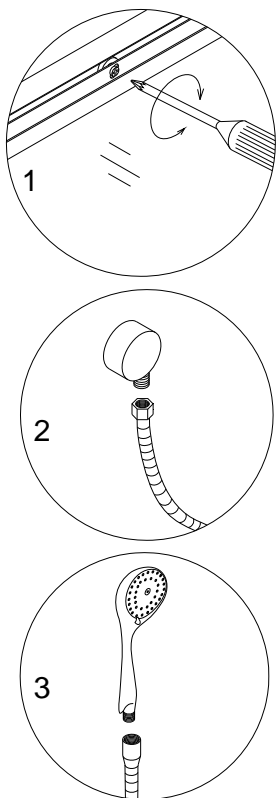

Fig 16
17. Use the Phillips screwdriver #2 (**do not use power screwdriver**) to adjust the upper wheels, make sure they move smoothly and the doors close tight. Connect the flexible hose to the hand shower. Secure this item in place on the control panel. See Fig 16 for details.